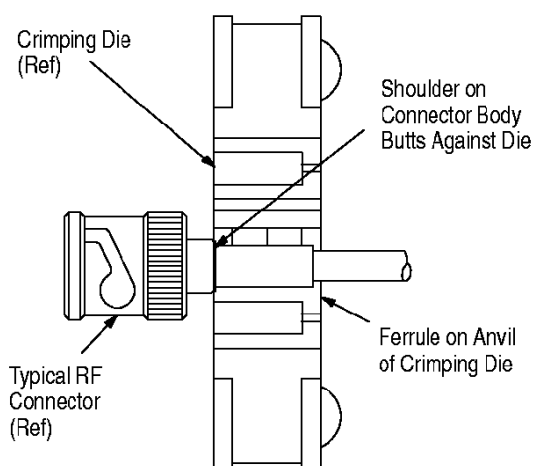

Figure 4
3. Place the ferrule on the anvil of the die assembly so that the shoulder on the connector body is butted against the die. See Figure 4.